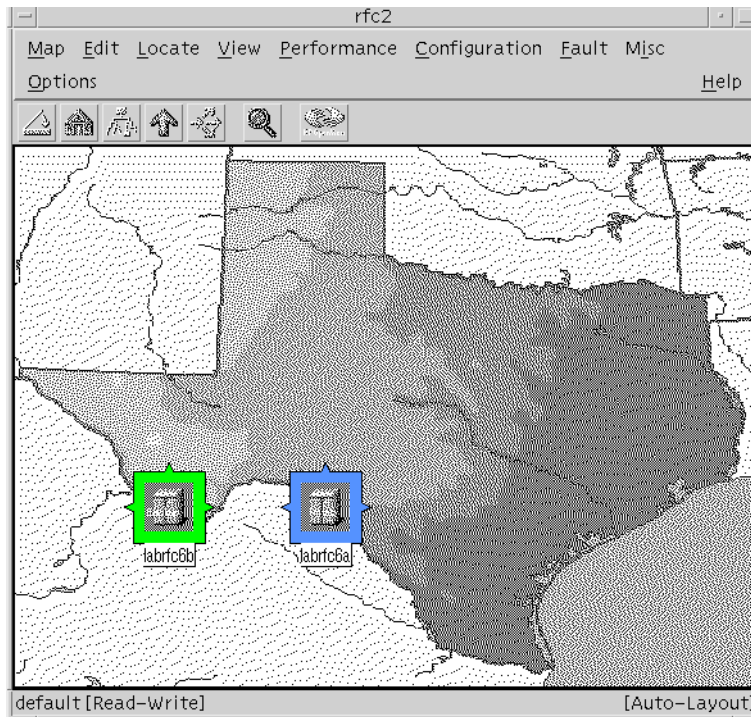

Figure 4-10: Prime and Backup RF-C! Controllers
- d. Label the RFCIIPrime symbol with its selection name in the Add Object dialog box (see Figure 4-10).
- b. Label the RFCIIBackup symbol with its selection name in the Add Object dialog box (see Figure 4-10).